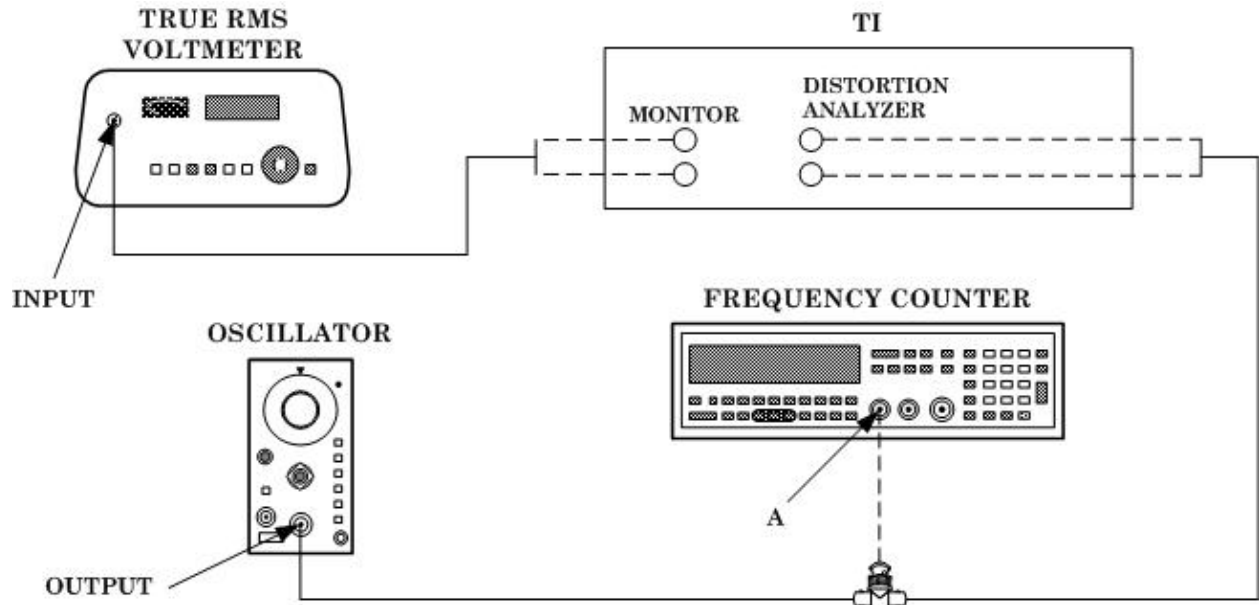

Figure 2. Filter accuracy equipment setup.
- (1) Connect equipment as shown in figure 2 below.